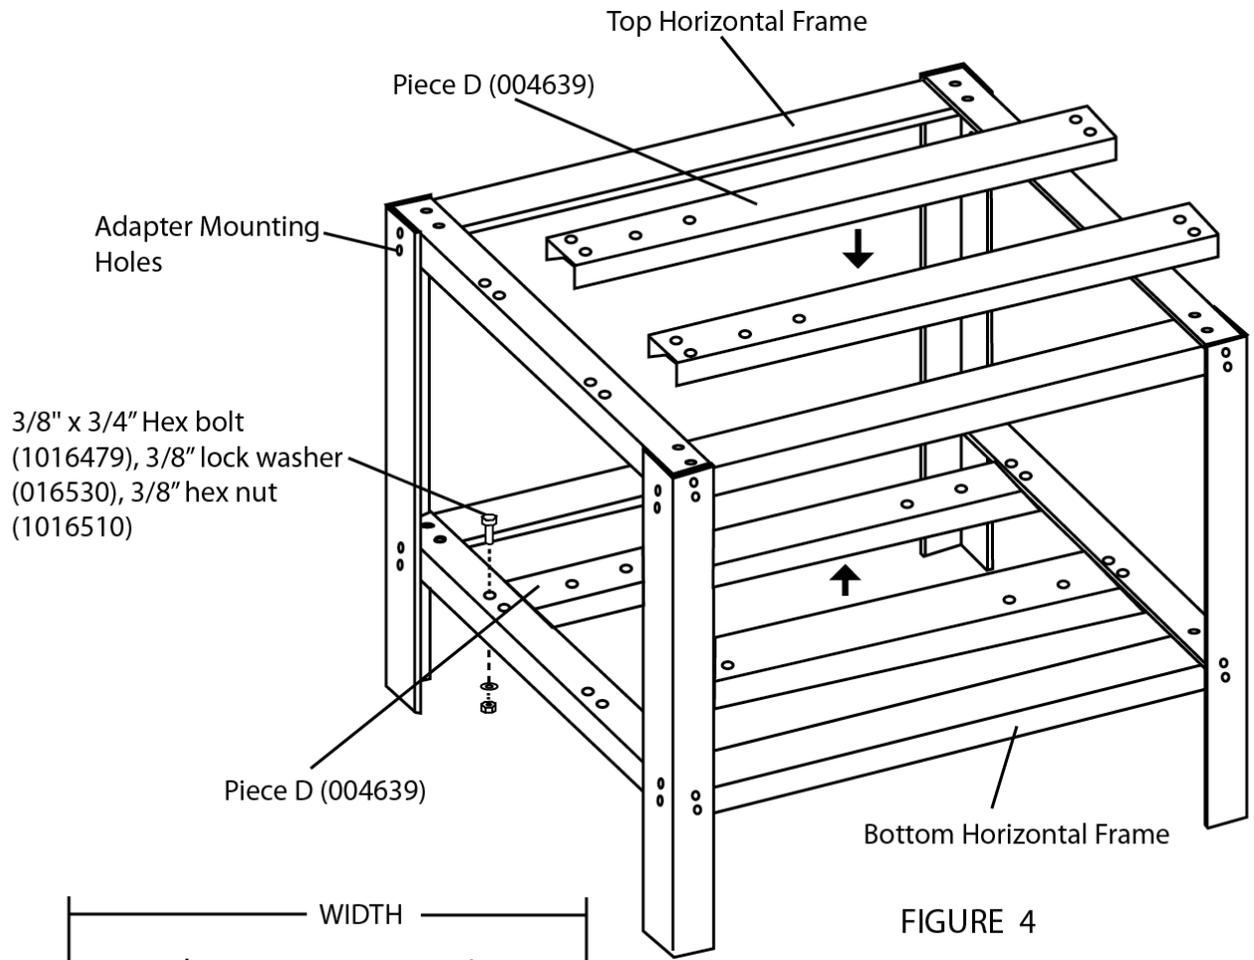

FIGURE 4
- Step 3 To install all ¾ H.P. to 7-1/2 H.P. low-or medium-temperature water-cooled compressor units on MODEL DRW-750 rack frame unit, auxiliary compressor adaptor support channels must be installed. These adaptors are illustrated in Fig. 4 as pieces (D) #004639.
- Step 4 To determine the proper spacing of the adaptor support channel pieces D (#004639) for the particular compressor unit being installed on the rack, refer to the unit no. tables and spacing illustrations in Fig. 5, 6, 7, and 8. Measure the distance lengthwise between the compressor base mounting holes and choose the proper sets of holes as shown on the illustrations in Fig. 5, 6, 7, and 8. Locate the center line of these holes on the top surface of the horizontal frame piece. Using the compressor adaptor support channel piece D #004639 as a guide, turn the adaptor upside down on the horizontal frame at the indicated center lines and mark off eight (8) mounting holes on each horizontal frame. Drill eight (8) 13/32" dia. holes into each frame. Secure the adaptors to the underside of the horizontal frame with eight (B) 3/8" dia. x 3/4" hex bolts (#016479), lock washers (#016530), and nuts (#016510). See Fig. 4 for clarification.